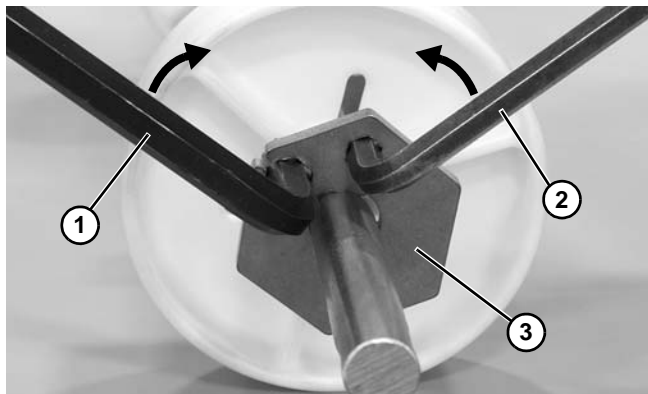

Figure 16
- a. Insert an 8 mm (Figure 16, item 1) and 6 mm (Figure 16, item 2) hex wrench into the retaining plate.
- b. Move wrenches toward each other to open the retaining plate (Figure 16, item 3) and install onto the shaft. Position retaining plate where needed.